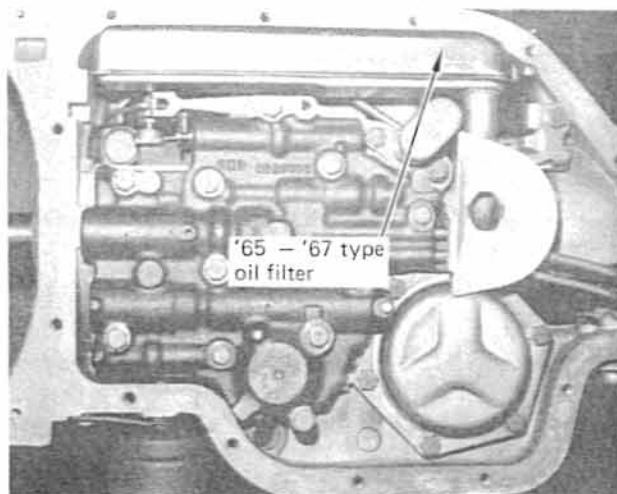

FIGURE 3
**'65-'67 models:** You will have a long box-like filter which runs along the left side of the valve body. (See Fig. 3) Remove this filter by pulling it straight off.